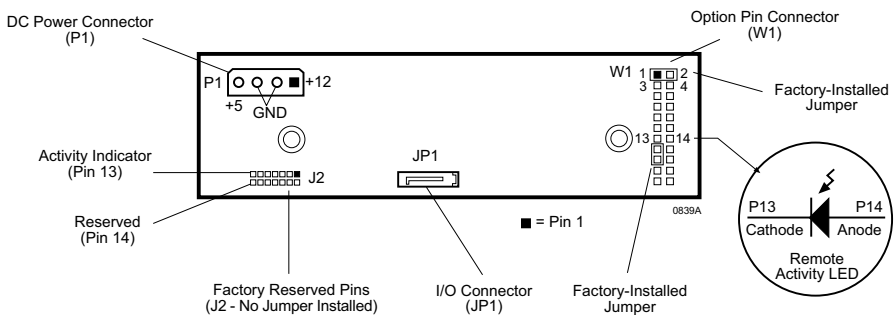

Figure 5: "Universal" Receiving Frame Motherboard (Rear View)
2. Host connection (cable not included) to J2 Pin 13 located on Receiving Frame Motherboard (Figure 5).
(Figure 5)
- **I/O Connector (JP1)** - The input/output connector provides a standard interface for all SATA signals (Figure 5).
6. Connect the power cable from the DC power supply in the computer or expansion chassis to the power connector on the SATA DE110 "universal" receiving frame. Refer to Figure 5 for the SATA DE110 "universal" receiving frame power connector location.